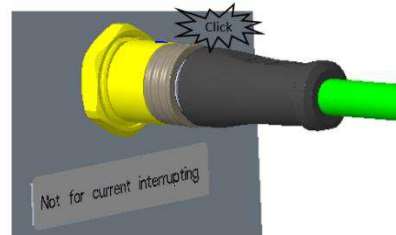

Figure 10
3.6.2.2 Insert the plug till the click, Figure 10